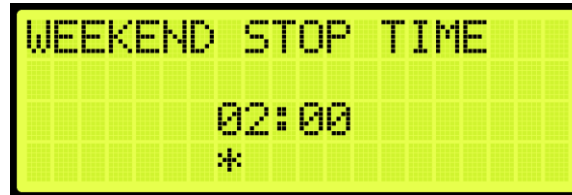

Figure 271: WEEKEND STOP TIME Menu
19. From the WEEKEND STOP TIME menu, set the stop time of the hall call security (See Figure 271).